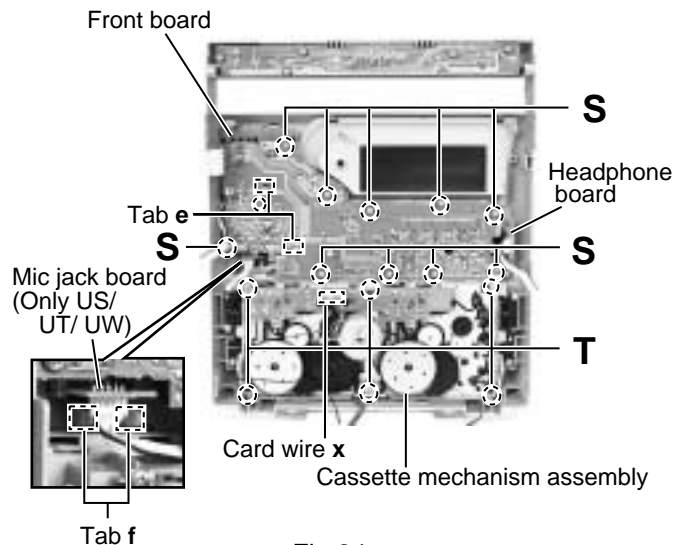

Fig.24
■Removing the headphone board & mic jack board (See Fig.24)
■Removing the cassette mechanism assembly (See Fig.24)